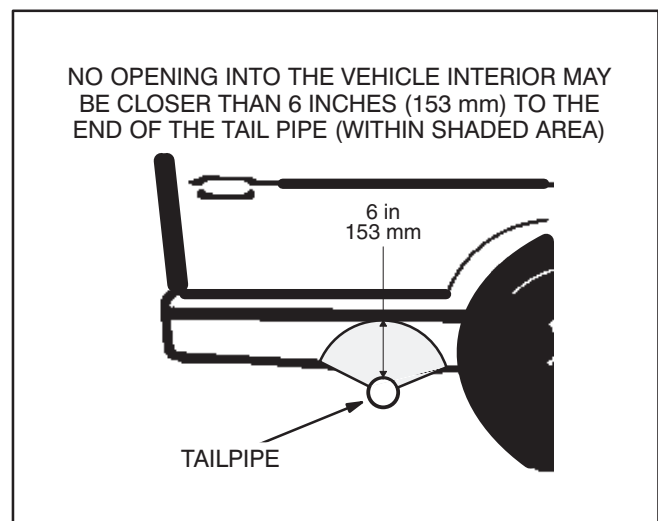
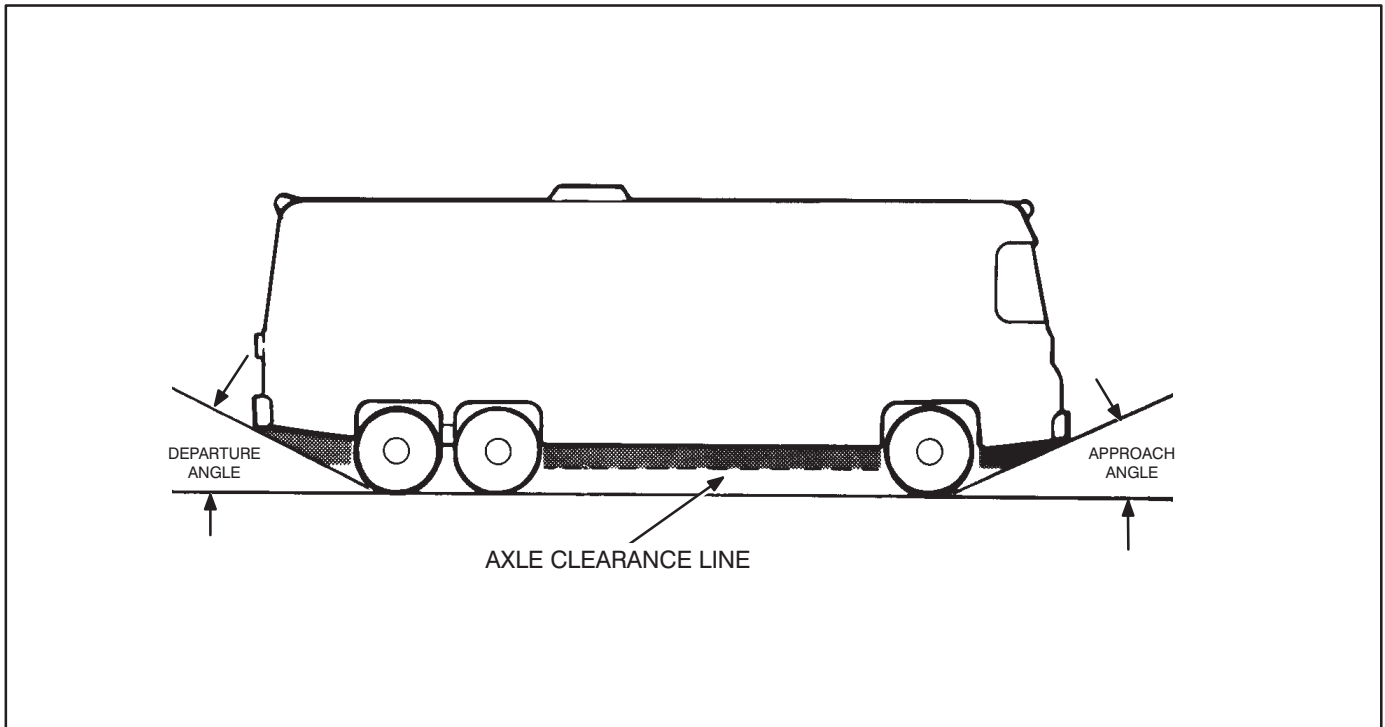

FIGURE 9. MINIMUM DISTANCES TO OPENINGS
FIGURE 10. APPROACH AND DEPARTURE ANGLES AND AXLE CLEARANCE LINE
⚠WARNING ***EXHAUST GAS IS DEADLY! To keep exhaust gases from entering the vehicle do not terminate the exhaust tailpipe underneath the vehicle or closer than specified to openings into the vehicle (Figure 9) or route it such that it is likely to be damaged (Figure 10). Use approved materials and parts only.***
9. Do not terminate the tailpipe such that it is closer than 6 inches (153 mm) to any opening into the vehicle interior (door, window, vent). See Figure 9.
10. Route the tailpipe such that it will not likely be struck when the vehicle is moving. At least keep it out of the approach and departure angles of the vehicle and above the axle clearance line (Figure 10).